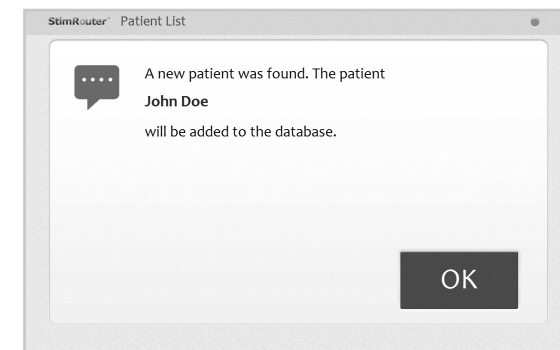

Figure 8-3: Adding a patient with an assigned system
3. The StimRouter software will automatically prompt that a new patient was found and to add the patient to the clinician programmer database. Press "OK". See Figure 8-3.